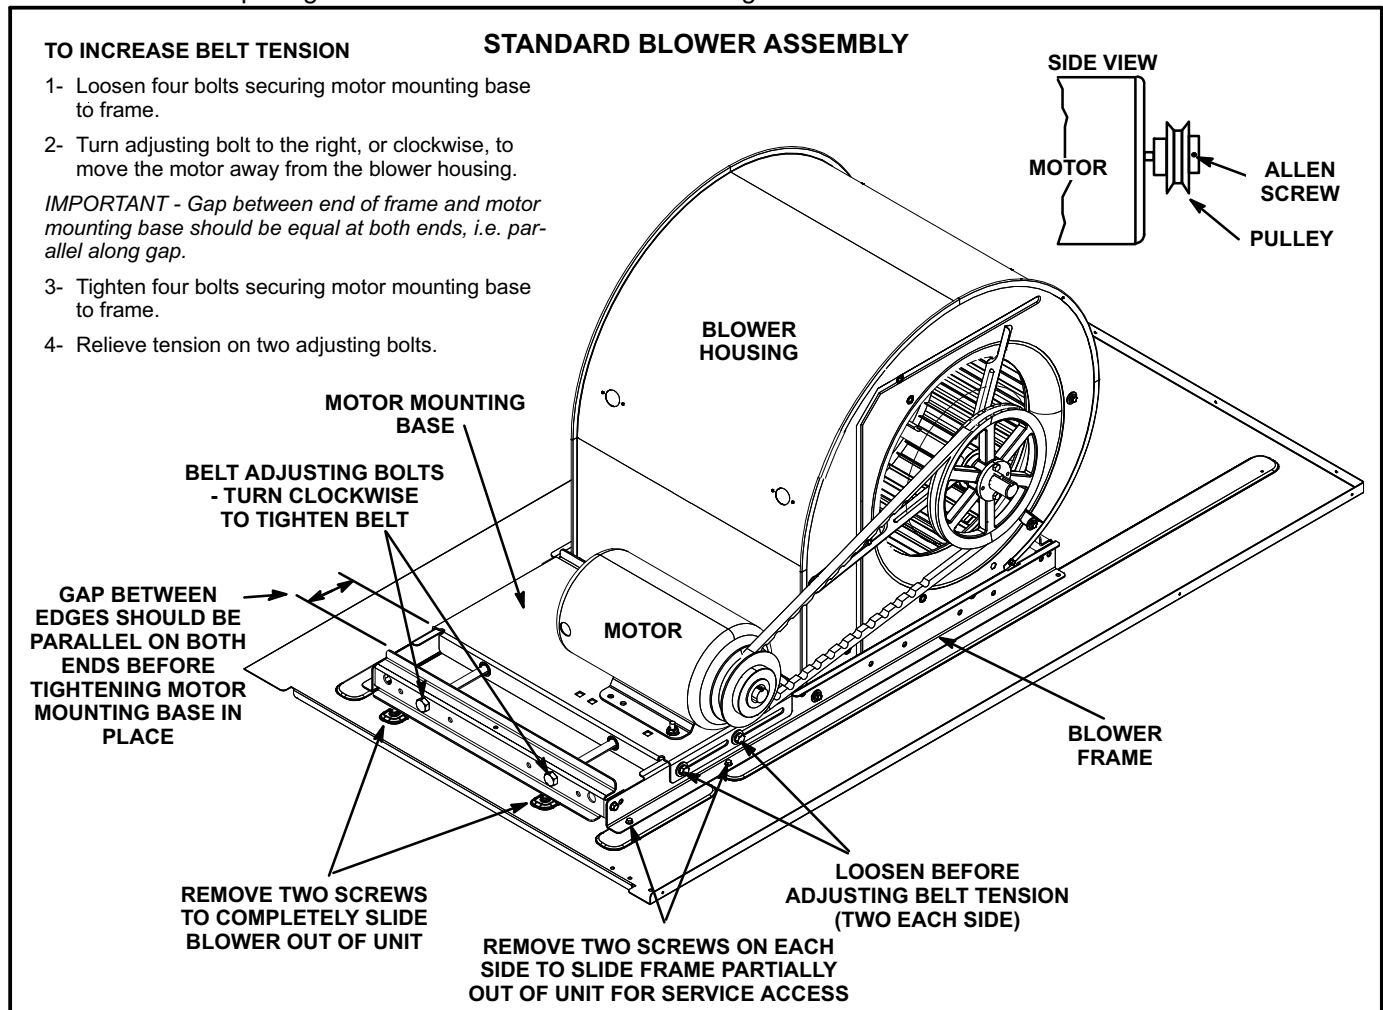

FIGURE 9
The blower assembly is secured to a sliding frame which allows the blower motor to be pulled out of the unit. See figure 9.
clockwise to increase CFM. Turn counterclockwise to decrease CFM. See figure 9. Do not exceed minimum and maximum number of pulley turns as shown in table 1.
- 1- Loosen four bolts securing motor base to mounting frame. See figure 9.